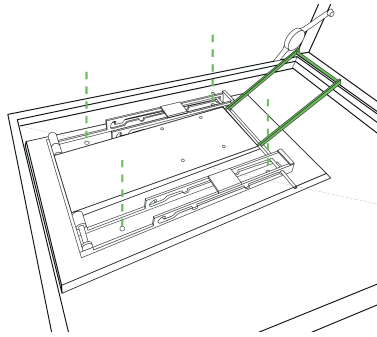

Figure 6-52. Kickstand aligned on mounting platform
3. Place the kickstand on its raised mounting platform on the top compartment with its handle closest to the compartment lid. Align the holes in the kickstand with the mounting holes in the raised platform (Figure 6-52).